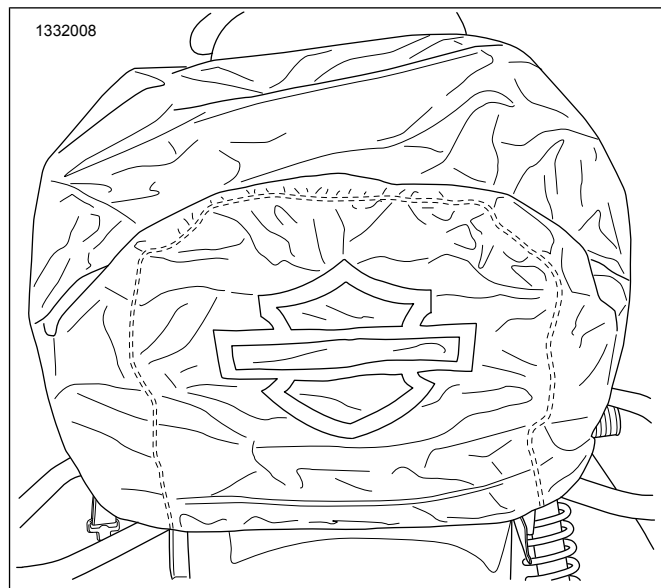

Figure 7. Rain Cover
1. See Figure 7. Pull rain cover over entire bag with Bar and Shield facing rear of bag.